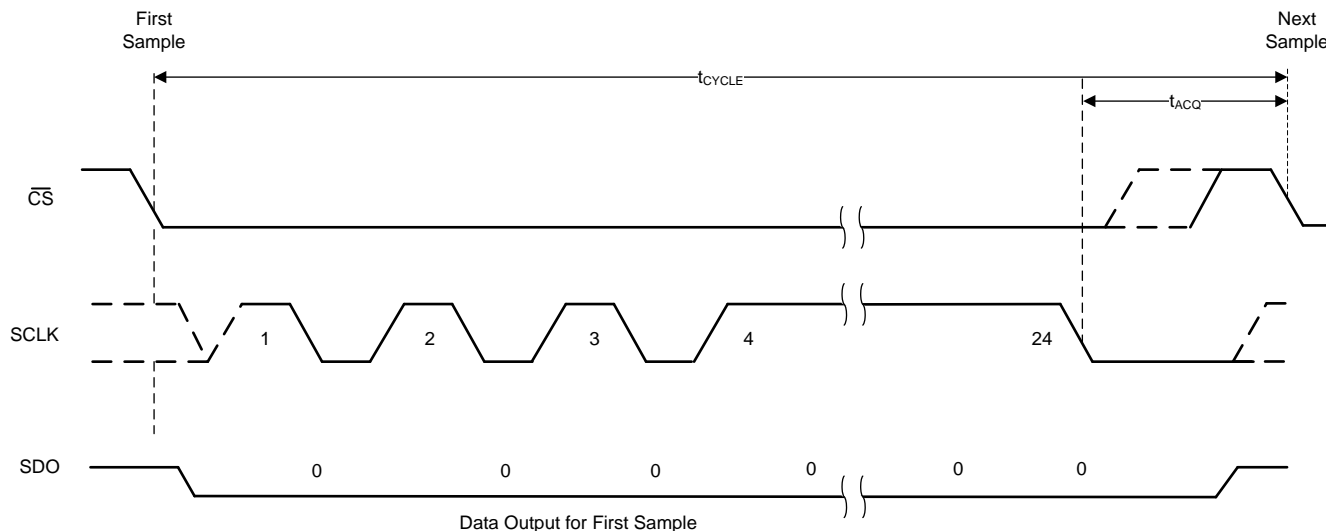

Figure 41. Timing for Offset Calibration on Power-Up
On power-up, the host must provide 24 SCLKs in the first serial transfer to enter the OFFCAL state. The device provides 0's on SDO during offset calibration. For acquisition of the next sample, a minimum time of t_{ACQ} must be provided. If the host controller enters the OFFCAL state, but pulls the CS pin high before providing 24 SCLKs, then the offset calibration process is aborted and the device enters the ACQ state. Figure 41 and Table 2 provide the timing for offset calibration on power-up.
(1) In addition to the timing specifications of Figure 41 and Table 2, the timing specifications described in Figure 2 and the Timing Requirements table are also applicable for offset calibration on power-up.